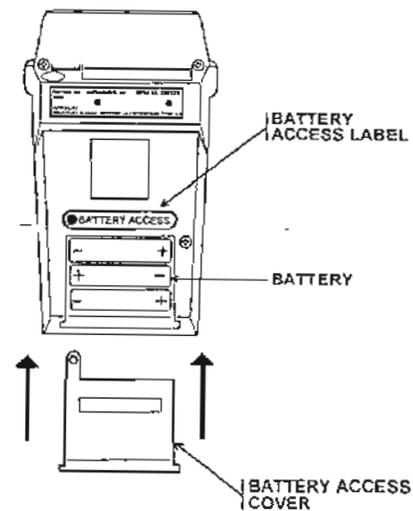

Figure 3-2. Battery access.
- b. Slide the battery access cover away from the battery access label to expose the batteries (fig 3-2).